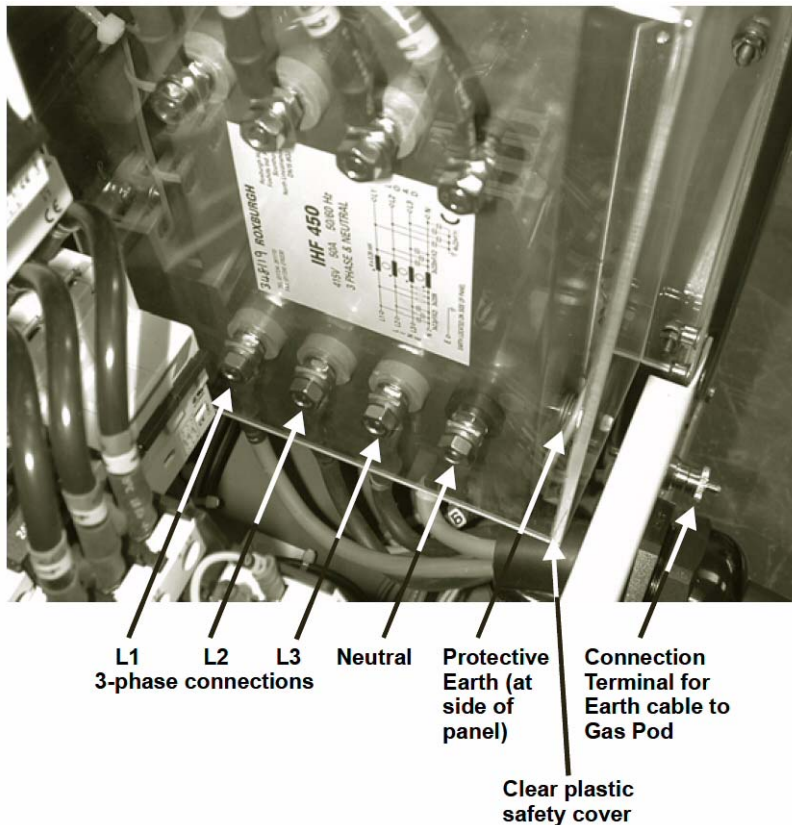

Figure 3-1 Three-phase supply cable connections in the electrical power box
- 9 Connect the gas outlet line, control cable and earth cable (**Figure 3-1**) from the gas pod to the system console.
- 4 Connect the wires of the three-phase supply cable as shown in Figure 3-1.